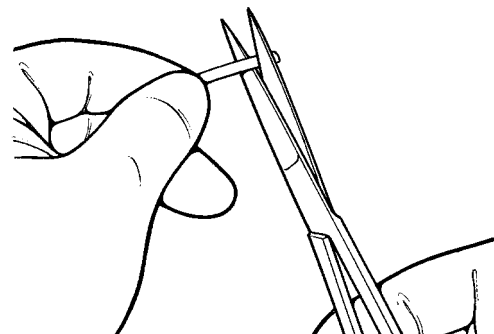

Figure 4-21. Cut Tubing
1. Cut the tubing (**Figure 4-21**) to fit the patient's anatomy.